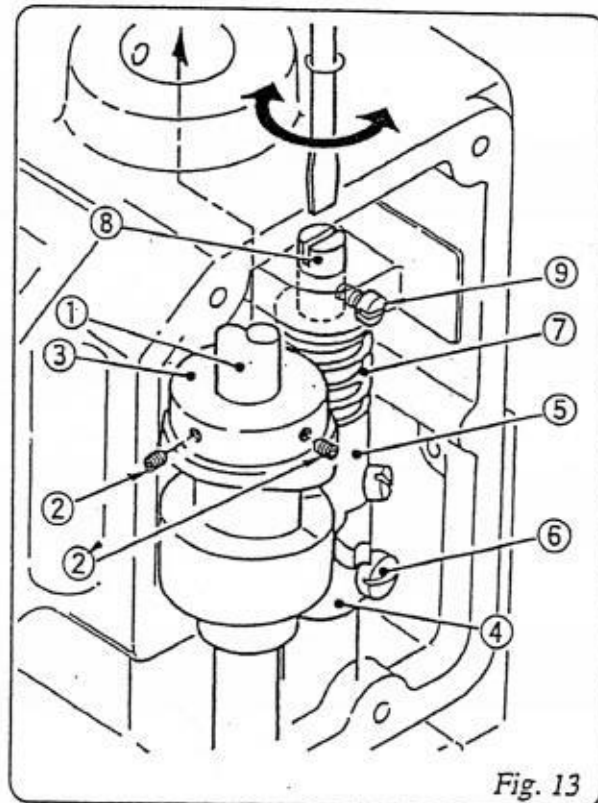

Fig. 13
Adjust Looper Drive Cam ③ When necessary as follows: (Refer to Fig.13.).
- a) Apply the Screws ② and ② on the taper of Main Shaft ①.
- b) Adjust Arm (B) ④, so that Looper Drive Cam ③ and Arm (A) ⑤ move smoothly. After adjusting, fix the Screw ⑥ tightly.
- c) The clearance between Looper Drive Cam ③ and Arm ⑤ is effected by Spring ⑦. Loosen Screw ⑨ and turn Spring Supporter ⑧ to adjust the pressure of Spring ⑦. After adjusting, tighten the Screw ⑨ to fasten Spring Supporter ⑧.
- ① Main Shaft 241102
- ② ② Screw 15/64S28524
- ③ Looper Drive Cam 243012
- ④ Looper Rocker Shaft Arm (B) 243081
- ⑤ Looper Rocker Shaft Arm (A) 243071
- ⑥ Screw for Looper Rocker Shaft Arm (B) 11/64S40009
- ⑦ Spring 243131